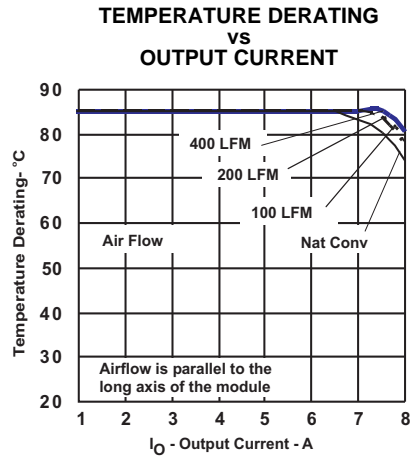

Figure 4.
- (9) The temperature derating curves represent the conditions at which internal components are at or below the manufacturer's maximum operating temperatures. The airflow direction is parallel to the long axis of the module. Derating limits apply to modules soldered directly to a 100 mm x 100 mm double-sided PCB with 2 oz. copper. Applies to Figure 4.